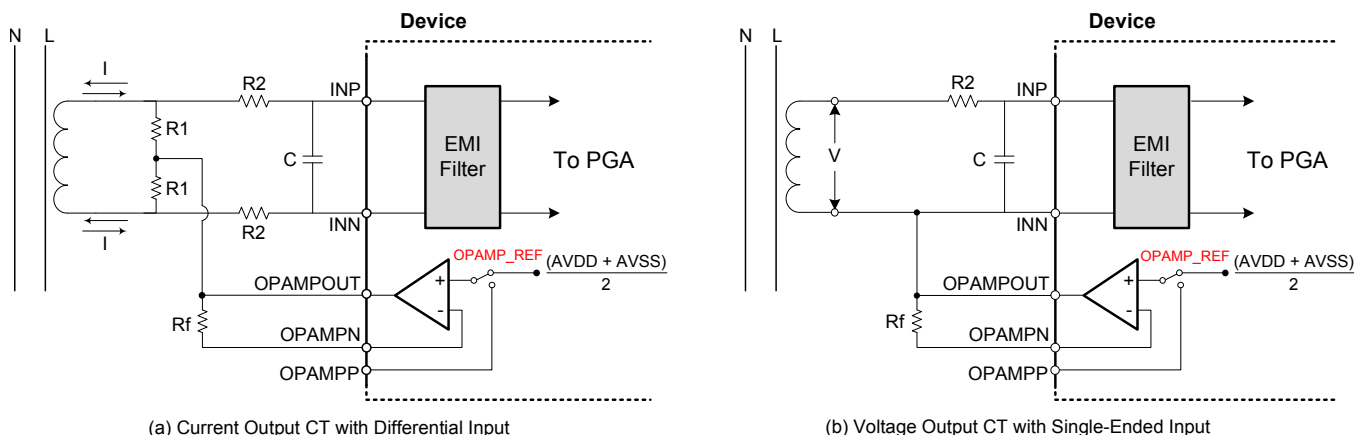

Figure 50. Simplified Current Sensing Connections
Figure 50 shows a simplified diagram of typical configurations used for current sensing with a Rogowski coil, current transformer (CT), or an air coil that outputs a current or voltage. In the case of the current output transformers, the burden resistors (R1) are used for current-to-voltage conversion. The output of the burden resistors is connected to the ADS131E0x INP and INN inputs through an antialiasing RC filter for current sensing. In the case of the voltage output transformers (such as certain types of Rogowski coils), the output terminals of the transformers are directly connected to the ADS131E0x INP and INN inputs through an antialiasing RC filter for current sensing. The common-mode bias voltage $(AVDD + AVSS) / 2$, can be obtained from the ADS131E0x by either configuring the internal op amp in a unity-gain configuration using the R_F resistor and setting bit 3 of the CONFIG3 register, or it can be generated externally with a simple resistor divider network between the positive and negative supplies.